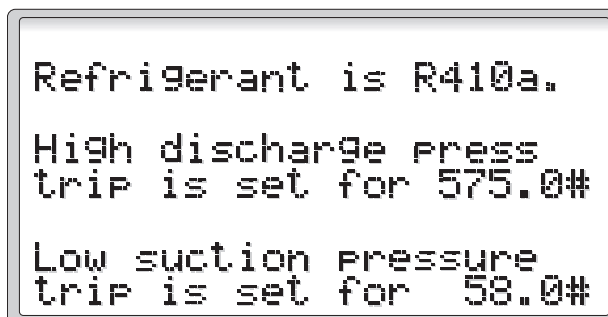

Figure 14
2.2.1.4 Pressure Cutouts (Figure 14)